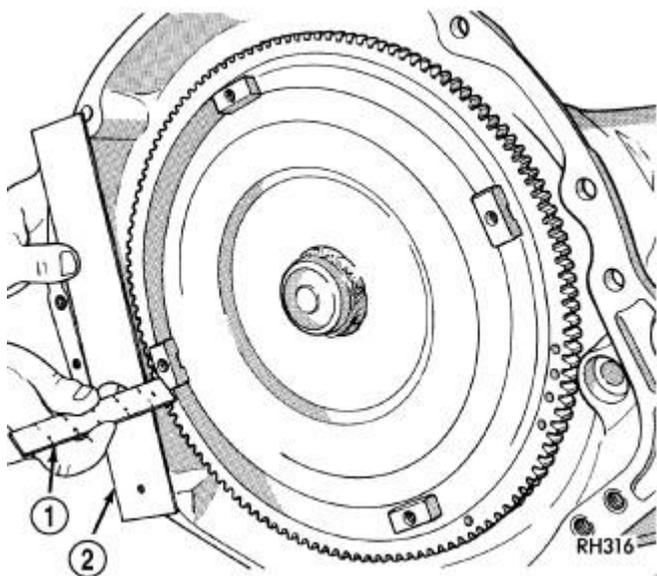

Fig. 213: Checking Torque Converter Seating
6. Check converter seating with a scale (1) and straightedge (2). Refer to **Fig. 213**. Surface of converter lugs should be at least 13 mm (1/2 in.) to rear of straightedge when converter is fully seated.